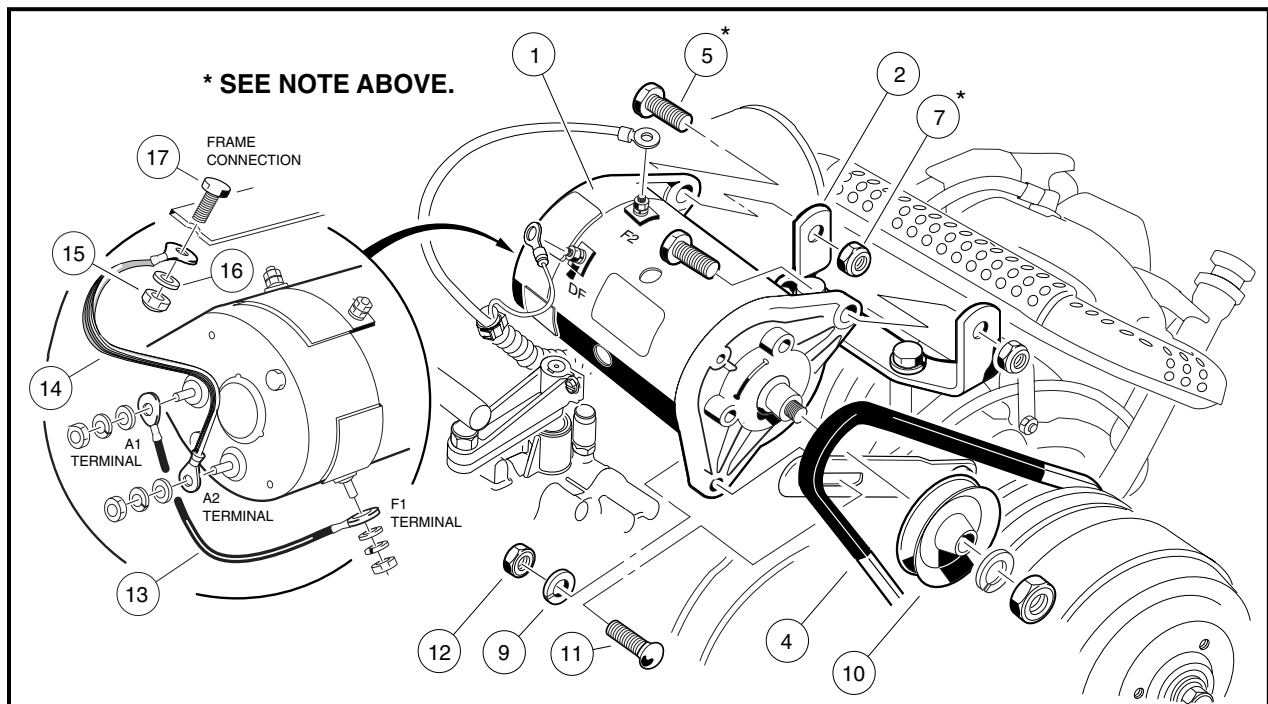

FIGURE 12-36
2. Disconnect the wires from the starter/generator (1). Mark wires before disconnecting. Loosen the pivot nuts (7) and bolts (5) (**Figure 12-36**).
3. Remove the mounting/adjustment nut (12), washer (9) and bolt (11). Lower the starter/generator and slip the belt (4) off the pulley (10) (**Figure 12-36**). See NOTE below.
- SEE FIGURE 12-36 BELOW. ON SOME EARLY 1997 VEHICLES, THE BOLT (5) WAS INSERTED FROM INSIDE THE BRACKET (2), AND A NUT AND LOCK WASHER (INSTALLED OUTSIDE THE BRACKET) WERE USED INSTEAD OF THE LOCK NUT (7).